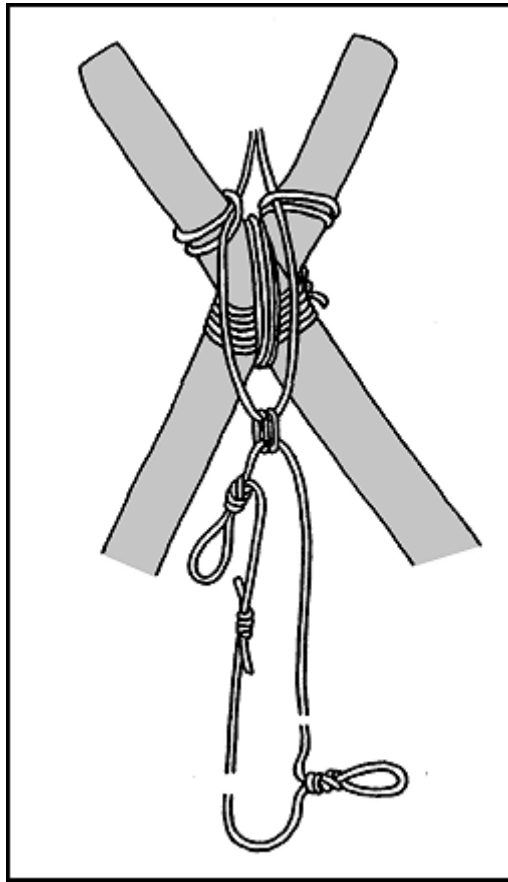

Figure 7-25. Attaching the anchor rope to the A-frame.
- a. To maintain the 12-inch bight, tie clove hitches above the A-frame lashing on each side of the apex with the installation rope, ensuring that the locking bars of the clove hitches are on the inside. Ensure that the portion of the rope that forms the bight comes out of the bottom of the clove hitch. (See Figure 7-25.)